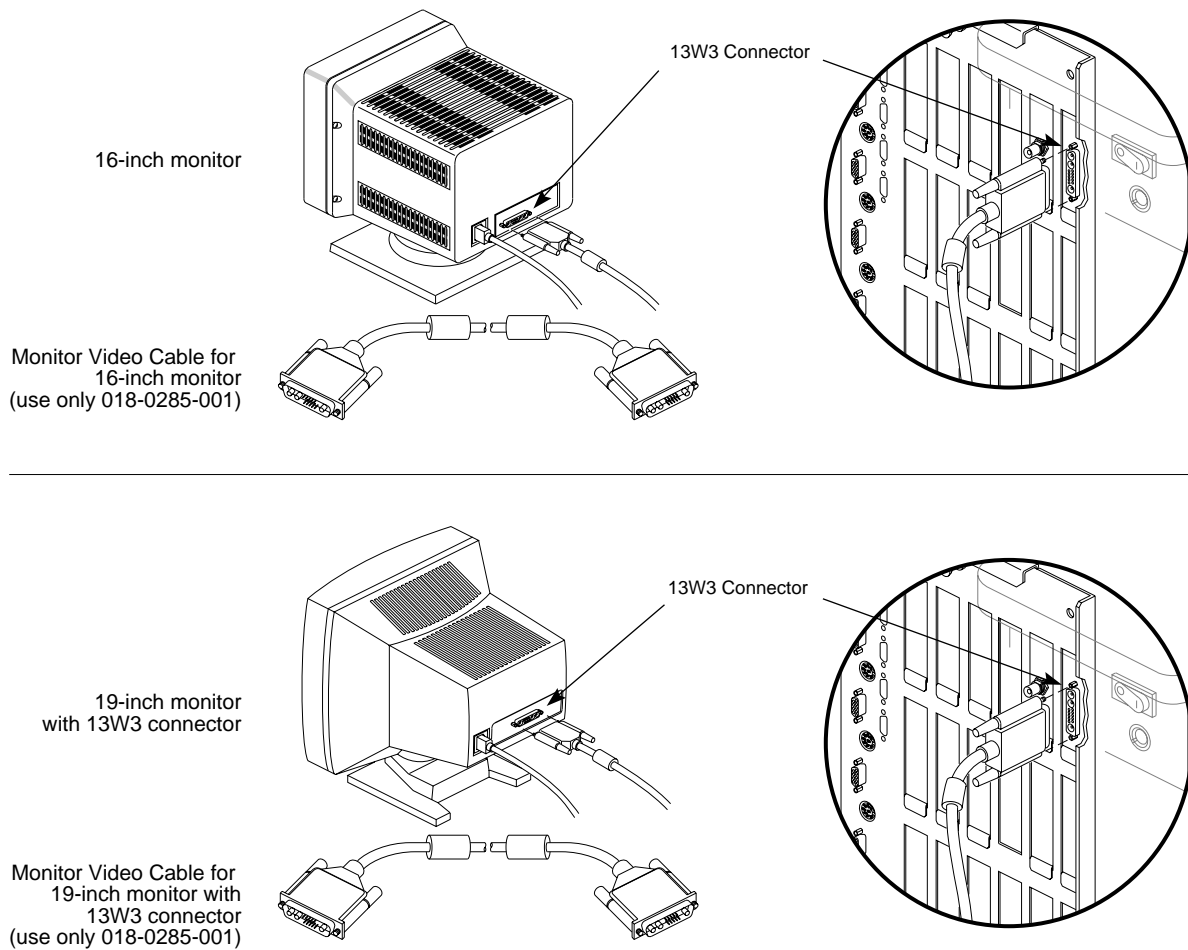

Figure 3-5 Connecting a Monitor
6. Connect the monitor to the 13W3 connector, as shown in Figure 3-5.